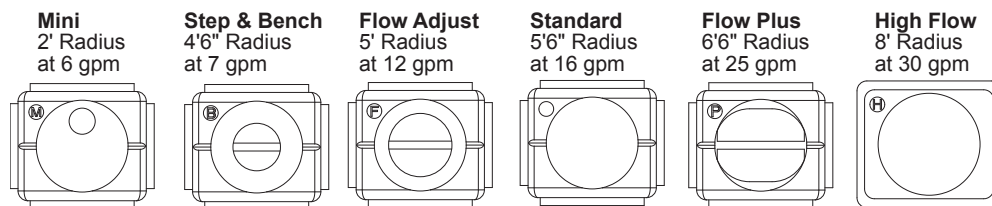

Figure 1. Nozzle options
**Follow the certified design plan to position and stake the cleaning head locations.** Each head has a designated nozzle that has a precise cleaning radius (see Figure 1). Perimeter heads have a 1 ft. (0.3 m) overlap. Mark the cleaning radius around each stake to verify cleaning coverage (Figure 2).